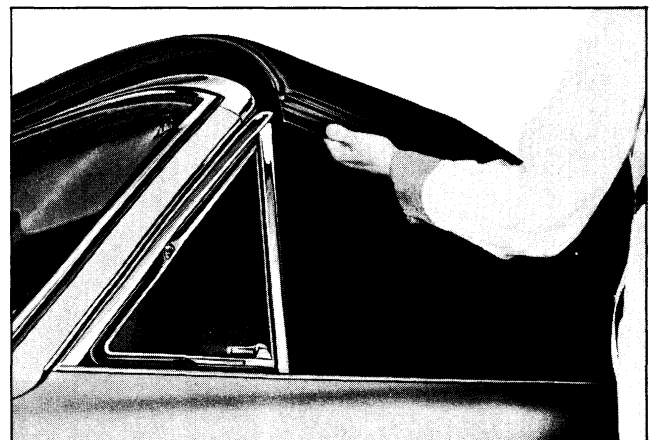

Fig. 22-8 Rotating Top Rearward
A. Standing along side of car, place palm of hand against middle of side roof rail front section. Lift up forward portion of top assembly and rotate top rearward (Fig. 22-8).